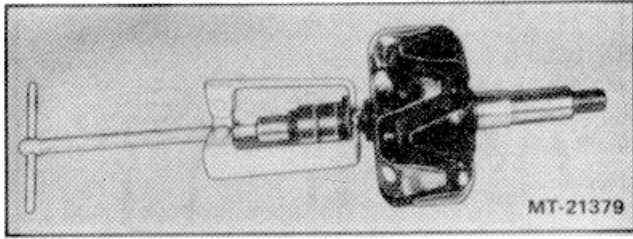

Figure 22 - Removing Slip Ring Assembly.
- With a suitable puller, the slip ring assembly may now be pulled from the shaft (See Figure 22).